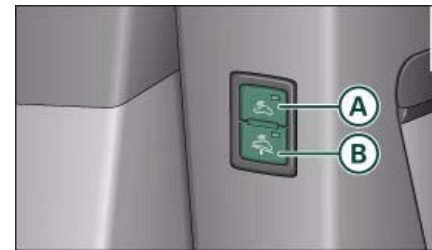

Fig. 40 Front end of the driver's door:
- Press switch **(A)** ⇒ fig. 40. The diode in the switch will light up.